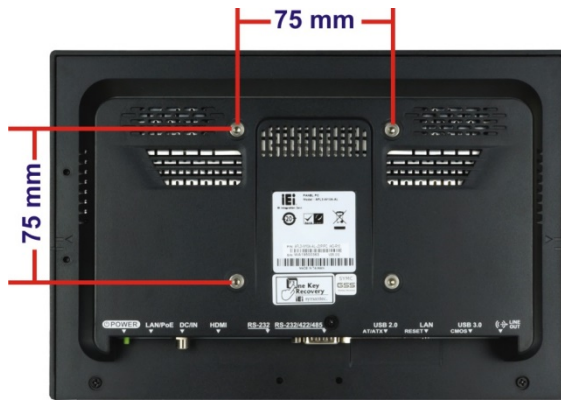
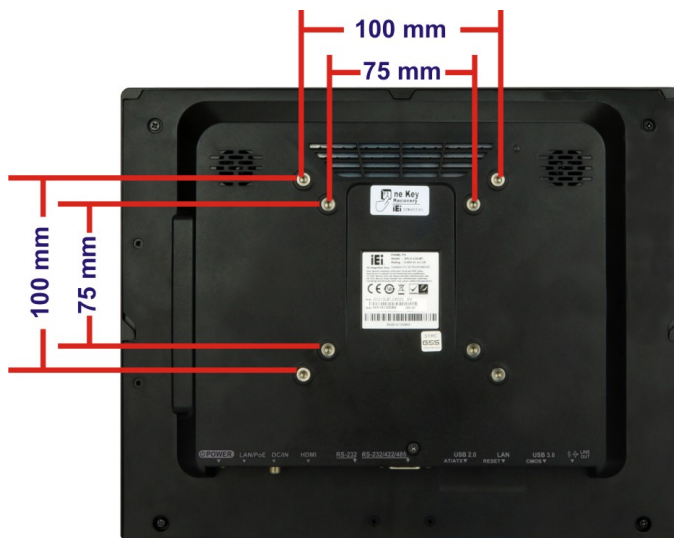

Figure 3-33: Arm Mounting Retention Screw Holes (10.1")
Figure 3-34: Arm Mounting Retention Screw Holes (12.1")
Step 3: Align the retention screw holes on the mounting arm interface with those in the panel PC (**Figure 3-33** and **Figure 3-34**).